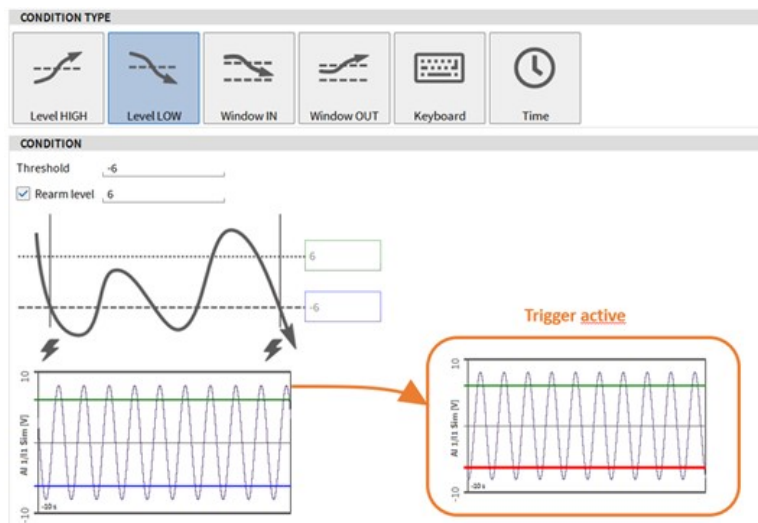

Fig. 9.7: Trigger on *Level LOW*
- **Level LOW:** Activate Event if selected signal falls below defined Threshold. A *Rearm Level* that must be passed before the trigger is activated again can optionally be defined (see Fig. 9.7).